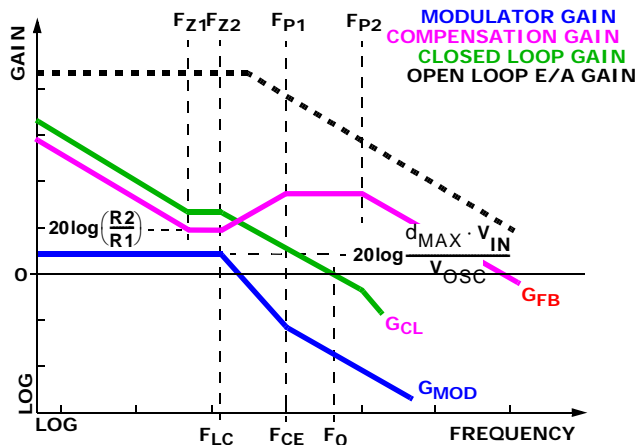

FIGURE 25. ASYMPTOTIC BODE PLOT OF CONVERTER GAIN
Figure 25 shows an asymptotic plot of the DC/DC converter's gain vs frequency. The actual Modulator Gain has a high gain peak dependent on the quality factor (Q) of the output filter, which is not shown. Using the previously mentioned guidelines should yield a compensation gain similar to the curve plotted. The open loop amplifier gain bounds the compensation gain. Check the compensation gain at  $F_{P2}$  against the capabilities of the error amplifier. The closed loop gain,  $G_{CL}$ , is constructed on the log-log graph of Figure 25 by adding the modulator gain,  $G_{MOD}$  (in dB), to the feedback compensation gain,  $G_{FB}$  (in dB). This is equivalent to multiplying the modulator transfer function and the compensation transfer function and then plotting the resulting gain.